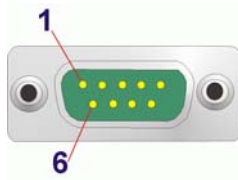

Figure 3-29: RS-232 Serial Port Connector
- CN Pinouts:** See Figure 3-29 and Table 3-24